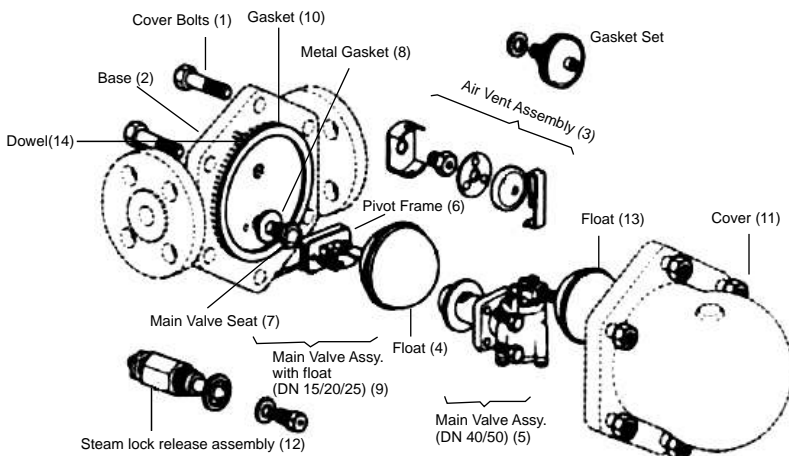

Figure9: Maintaining the main valve assembly
7.4 Maintaining/ Replacing the main valve assembly: (Refer Figure 9)
Available Spares: (Refer to Figure 9)